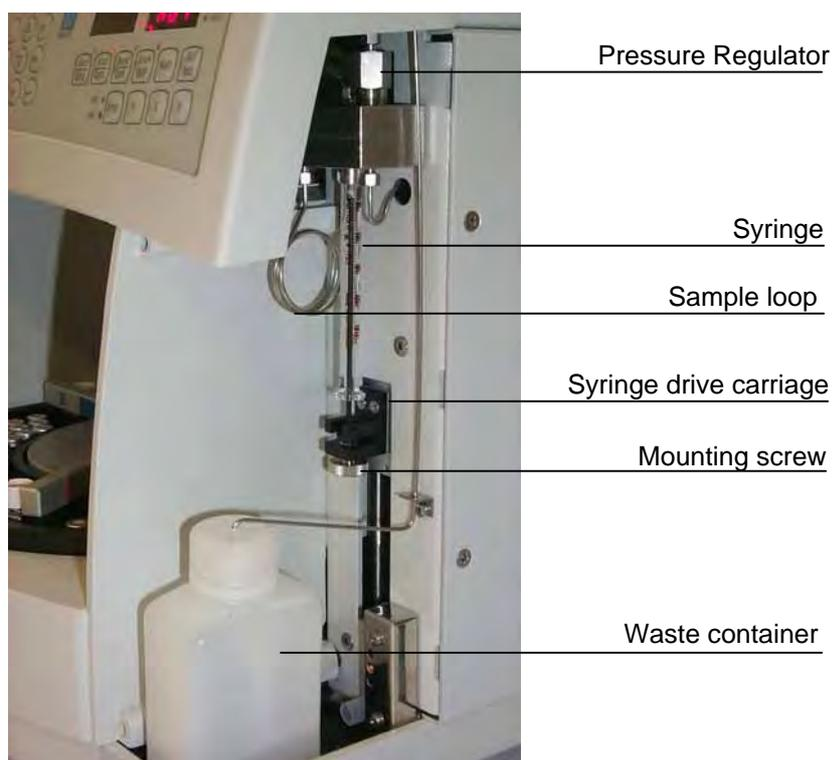

Fig. 32: Syringe removal/replacement
To remove the syringe (→ Fig. 32):
A waste container (→Fig. 32, page 111) within the autosampler enclosure receives the injection overflow. The container stands in a tray in which a sensor is installed. If a certain level of liquid is reached in the drip tray, an acoustic beep sounds. On the display, an error message appears stating **Leak detected**:
-  **Important:** Do not forget to empty the waste container (→ Fig. 32, page 111) before shipping the autosampler.